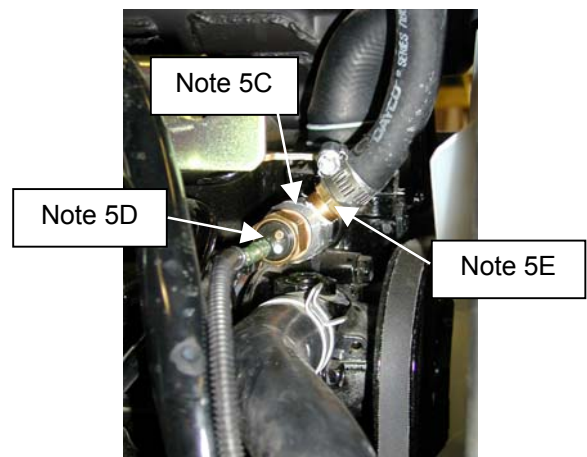

Figure 5C
- C. Install aluminum fitting #3-15815 with O-ring washer #3-16823 into the thermostat housing. See Figure 5C.